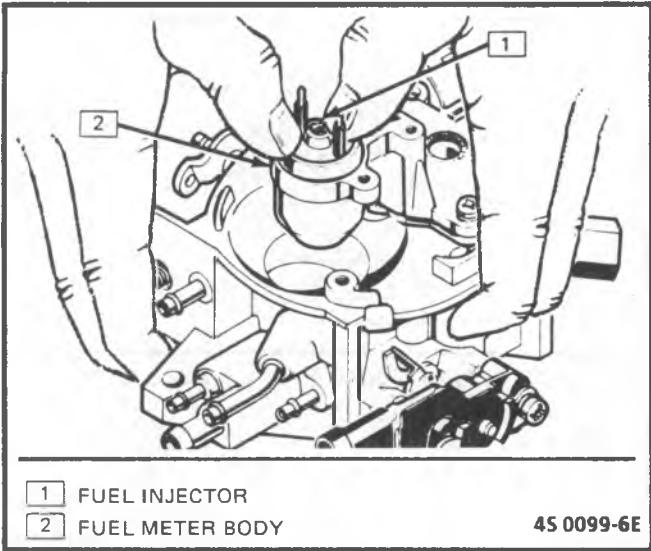

Figure 4-18 - Installing Fuel Injector - TBI 221
4. Injectors, aligning raised lug on each injector base with notch in fuel meter body cavity. As shown in Figure 4-18, push down on injector until fully seated in fuel meter body. (Electrical terminals of injector should be parallel with throttle shaft.)